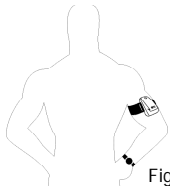

Fig. 3
- Slip the sensor and strap over your hand and onto your upper arm. Watch must be worn on same arm.(Fig. 3)